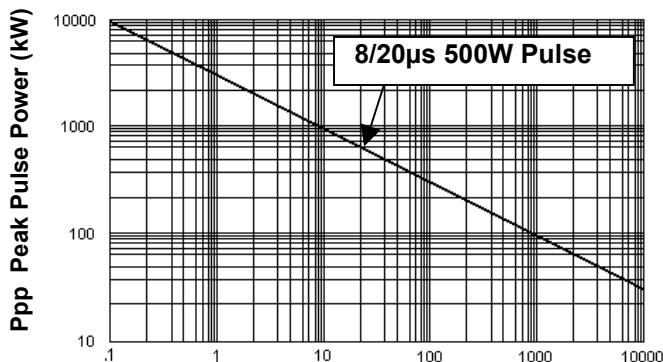

Figure 1
- Peak Pulse Power: 500 watts (8/20 μ s, Figure 1)